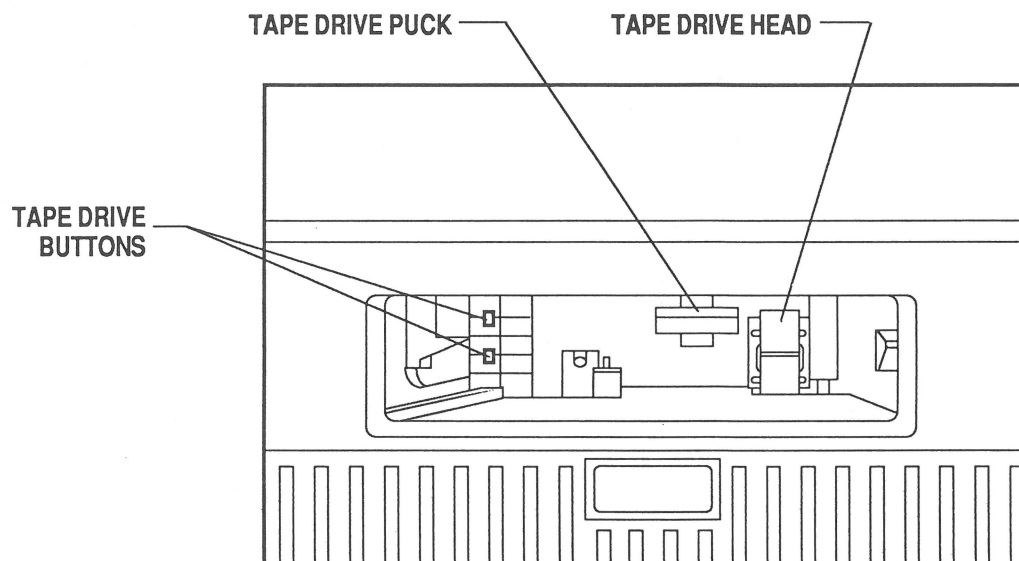

FIGURE 1
3. Insert the nonconductive utensil into the left side of the tape drive and use it to press the lower tape drive button (Figure 1). Then insert the swab and hold the tip firmly against the left side of the puck. While the puck is rotating, move the swab up and down until the motor automatically stops (about 20 seconds).